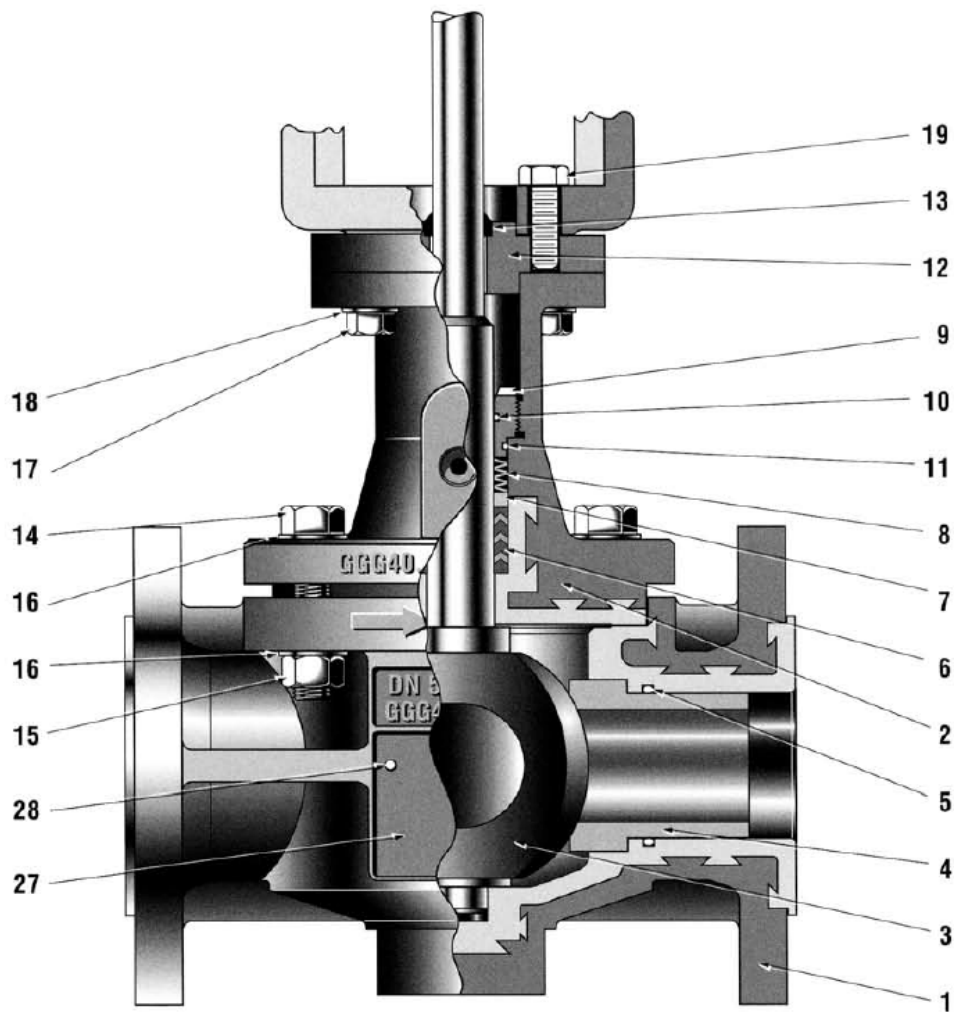

Figure 1
1. Remove the rear and front covers (118 & 121) of the actuator by releasing the screws (119). If necessary screw out the handwheel (141) after removing the Truarc ring (138) and washer (139).
3. Remove the indicator (154), clevis pin clip (122) and clevis pin (124), release the lever cap screw (137).
4. Depressurize the spring barrel. If the valve is not supplied with a positioner, remove screw (127) and shaft cover (126).
5. Remove the yoke screws (19) (Figure 1) and lift off the complete actuator unit and lever (135).
6.2 Valve Body Disassembly (Figures 1, 2, and 4)
7.1 Valve Body S/A Reassembly (Figures 1 to 4)
3. Insert the plug (3) into the bottom guiding bore of the body.
4. Place the bonnet (2) over the plug shaft onto the body and handtighten the bolting (14, 15, 16).
5. To insert the packing into bonnet (2), screw the guide tube into the body (Figure 2) up to the stop. Insert the complete packing (6) via the shaft end of the shaft into the guide tube until the packing has been fully inserted. It is essential that the packing is aligned in accordance with the detail drawing, (Figures 1 and 4).
7. Insert the seven disk springs (8) in accordance with Figures 1 and 4 and unscrew the guide tube (Figure 2).
3. Secure the yoke to the valve body with screws (19) (Figure 1).